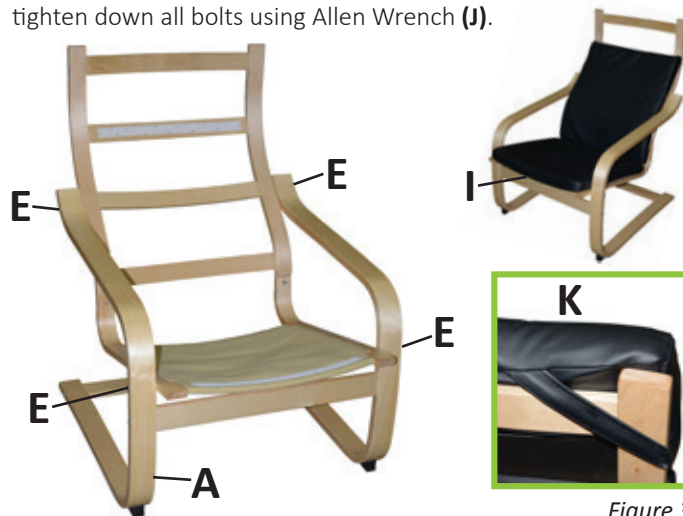

Figure 3
Next, place Seat Cushion (I) onto assembled frame and attach with velcro strips on back and seat. Then, attach Headrest (K) by wrapping straps around the assembled chair. (See Figure 3.)